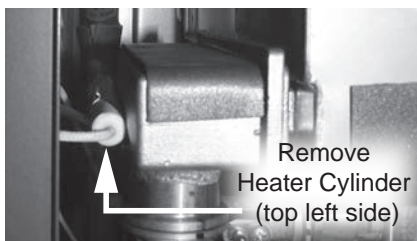

Figure 148 - Removing secondary HEX heating cylinders
- 40** Locate the heater cylinder on the left side of the secondary HEX. The heater cylinder is held in place by a flexible bracket. Remove the heater cylinder. See Figure 148.